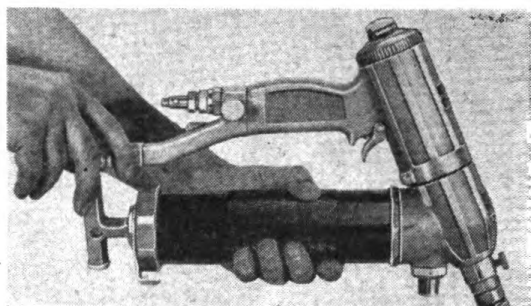
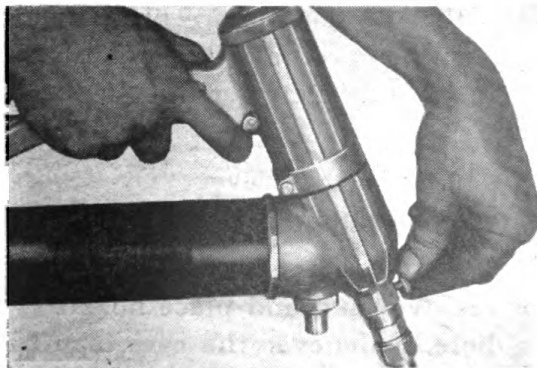

Figure 74
Figure 78
e. Open pressure release valve (See Figure 78), push follower handle all the way in, and engage with air motor handle (See Figure 74). Then close release valve.
e. If gun operates continuously without building pressure or delivering lubricant, open release valve (See Figure 78) and operate until clear lubricant appears at this point.